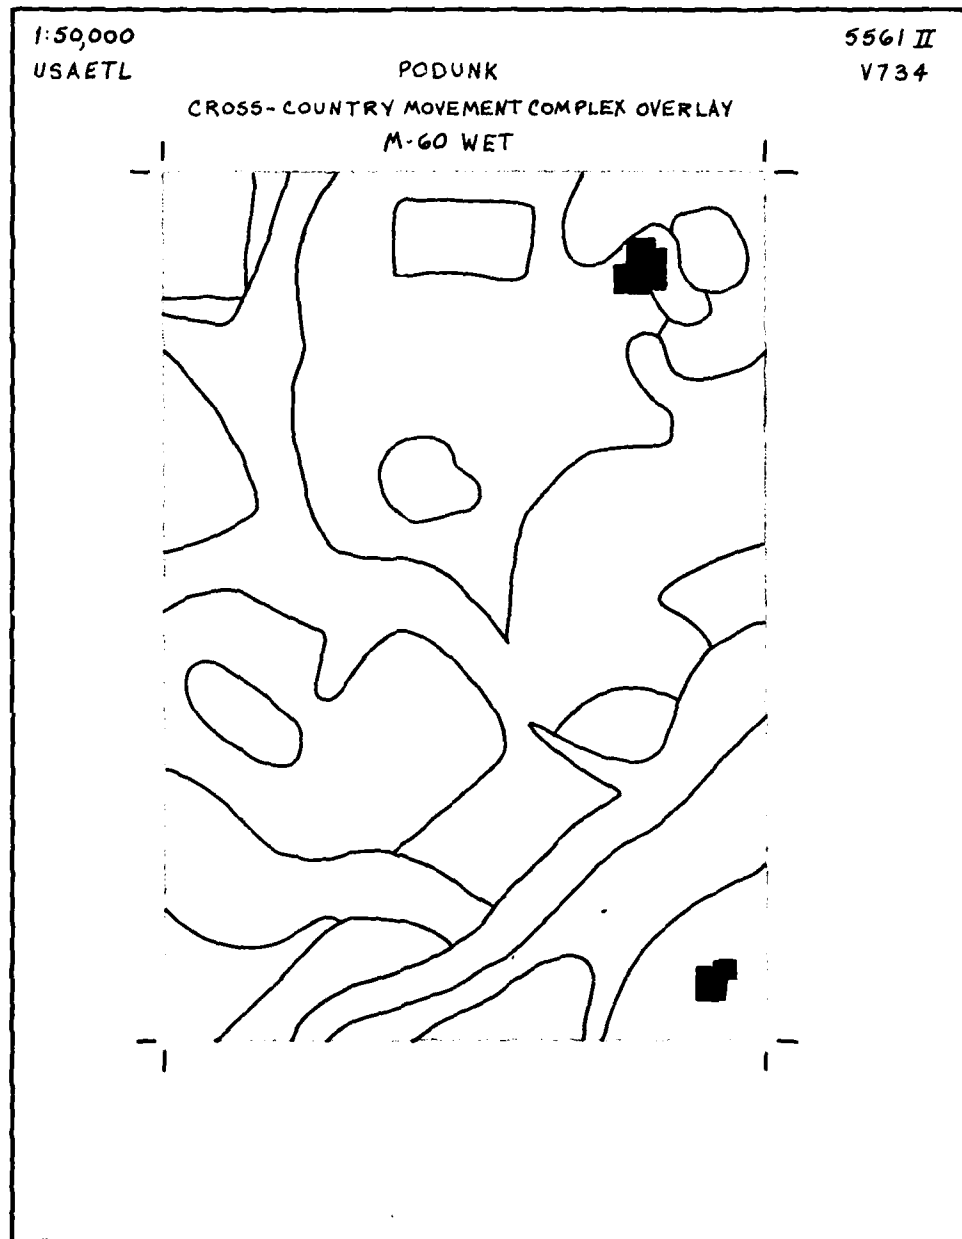

Figure 11. Sample Complex Overlay with Built-Up Areas and Vegetation Added
c. Referring to table 2, note all the vegetation map units that are NO GO. Color these in with a yellow fine-line pencil as in figure 11. Ignore areas smaller than this circle .